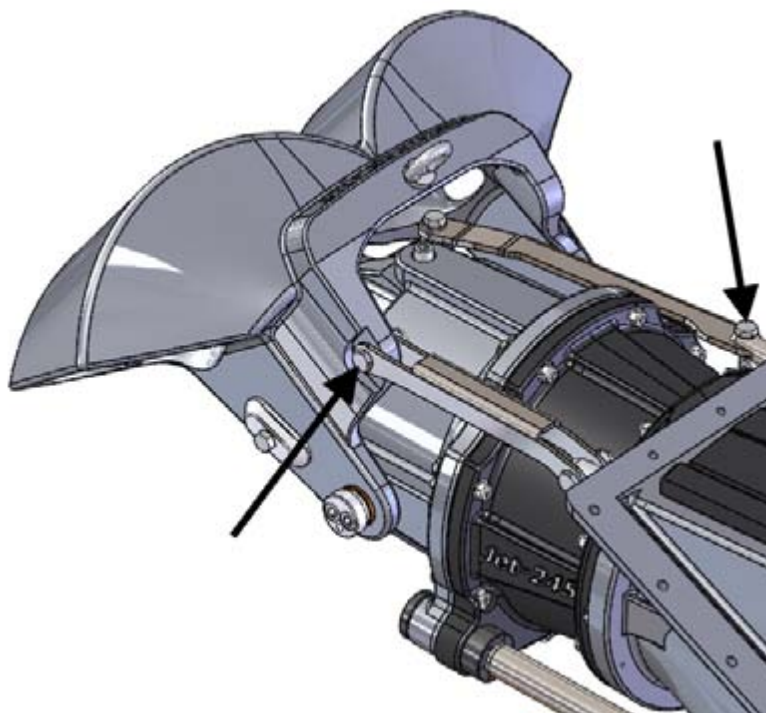

Figure 27. Reversing deflector screws
1. Open the screws indicated by arrows in figure 27 .